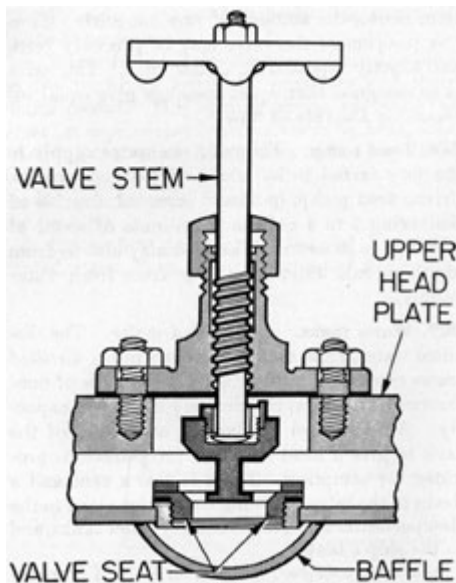

Figure 3-7. Bypass valve.
**3C5. Bypass valve.** The bypass valve (Figure 3-7) is not a separate valve, nor connected into the system as ordinary valves are. It is, instead, an integral part of the upper head plate. The bypass valve opening connects the compressor discharge space and the vapor chamber above the boiling sea water (Figure 2-1). The round part at the bottom is a bale and is open at both ends (Figure 3-7). The bypass valve is normally closed during distillation, but it is temporarily opened at starting, as described in Section 4B1.